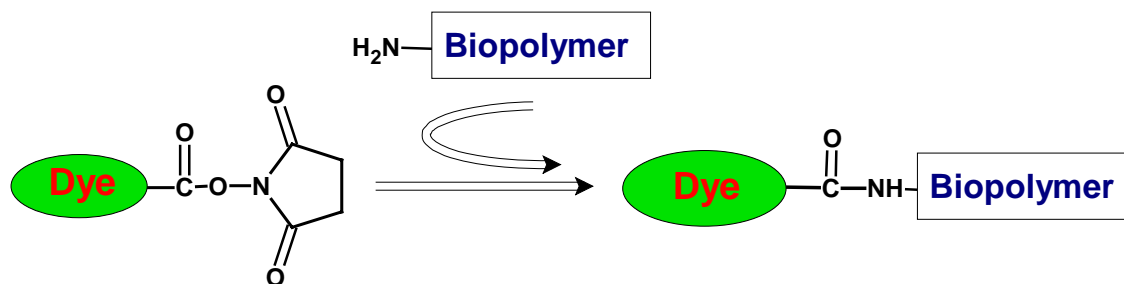

Figure 1. The succinimidyl ester group of fluorophore reacts with amine groups on the protein to form a stable carboxamide bond.
AnaTag™ HiLyte Fluor™ 555 Protein Labeling Kit provides a convenient way to label proteins by using the succinimidyl ester (SE) reactive form of HiLyte Fluor™555. The succinimidyl ester shows good reactivity and selectivity with aliphatic amines of the protein and forms a carboxamide bond, which is identical to, and is as stable as the natural peptide bond (Figure 1). HiLyte Fluor™555-protein conjugates can sustain treatments during immunofluorescent staining, fluorescence in situ hybridization, flow cytometry and other biological applications without hydrolysis.